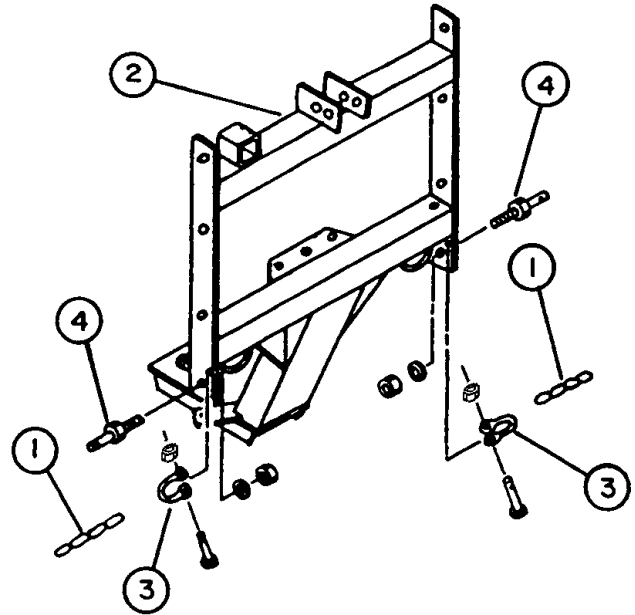

Figure 3
1. Attach chains (fig.3, item 1) to 3 point hitch or Rear Carrier (fig.3, item 2) using the clevises (fig.3, item 3) in small holes at bottom of frame.
2. Install threaded end of hitch pins (fig.3, item 4) in bottom holes of 3 point hitch or Rear Carrier (fig.3, item 2) and secure with hitch pins lockwashers and nuts.